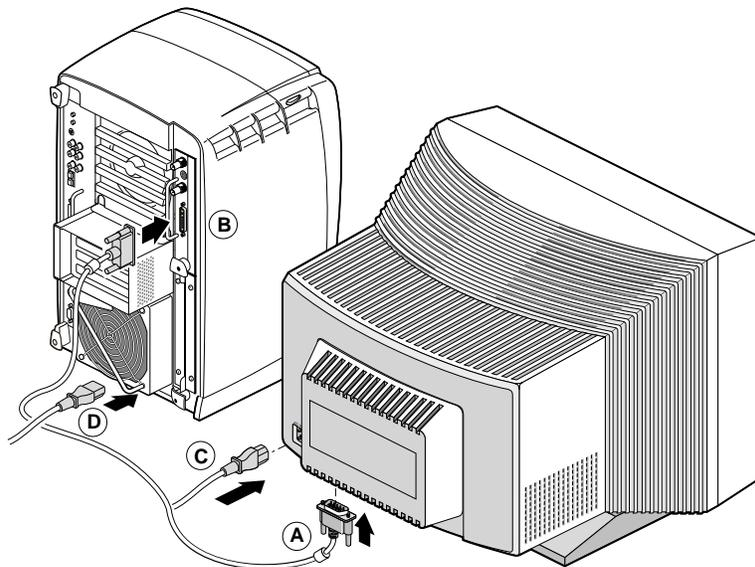

Figure 1-11 Connecting the Monitor and Power Cables
8. Connect the monitor and power cables, as shown in Figure 1-11.
- Connect the monitor-to-graphics cable (A) to the monitor.
- Connect the monitor-to-graphics cable (B) to the monitor connector on the back of your workstation.
- Connect the monitor power cable (C) to the monitor.
- Connect the Octane2 power cable (D) to the back of your workstation.